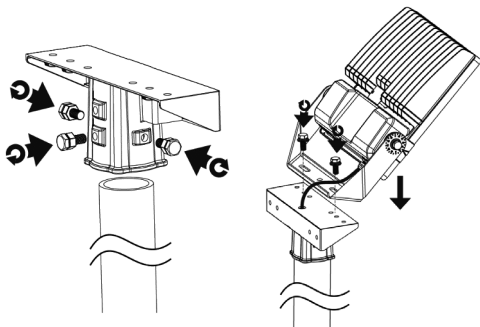

Fig. 3
- Insert the pole bracket on top of the pole and fix using the provided fixings. Fix the luminaire to the bracket using suitable fixings (not provided) (see Fig. 3)